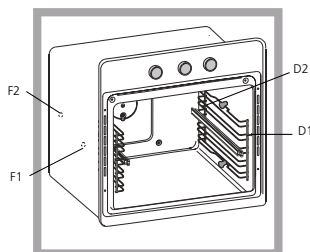

Fig.3
- Secure the two side racks with the guide rails using the holes provided on the oven walls (see Fig. 3).The holes for the left rack are situated at hole F1, F2 and the right rack at hole D1, D2.